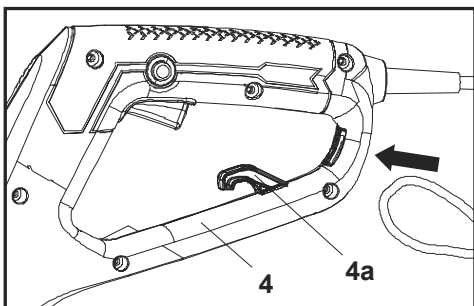

Fig. 4
1. Double the extension cord back, about 30 cm from the end and lead the loop through the hole on the guard (4). Pull it over the cord retainer (4a) and gently tug on the cord to ensure that it is firmly secured (Figs. 4, 5).